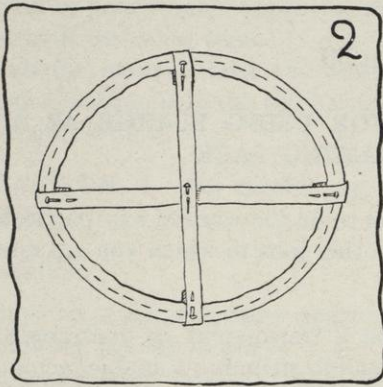

FIG. 2.
- d. Stretch and baste a 1-inch bias of lawn over the joined steel wire. Take a few extra stitches right at the clasp (see Figure 2 of Job 20, page 83). The lawn will prevent the maline from sticking to the wire.
- e. Pin the $\frac{1}{2}$ -inch tape to the steel wire from front to back and from side to side, in order to keep it the desired distance from the edge of the brim (see Figure 2).
(1) Read and follow Job 58, Sections 3 c (1) through (5) in order to fold the maline economically (page 248).
- d. Put a few pins through the center to hold the two layers of maline together, and to act as a guide in steaming it over the steel wire (see Figure 2 of Job 58, page 248).